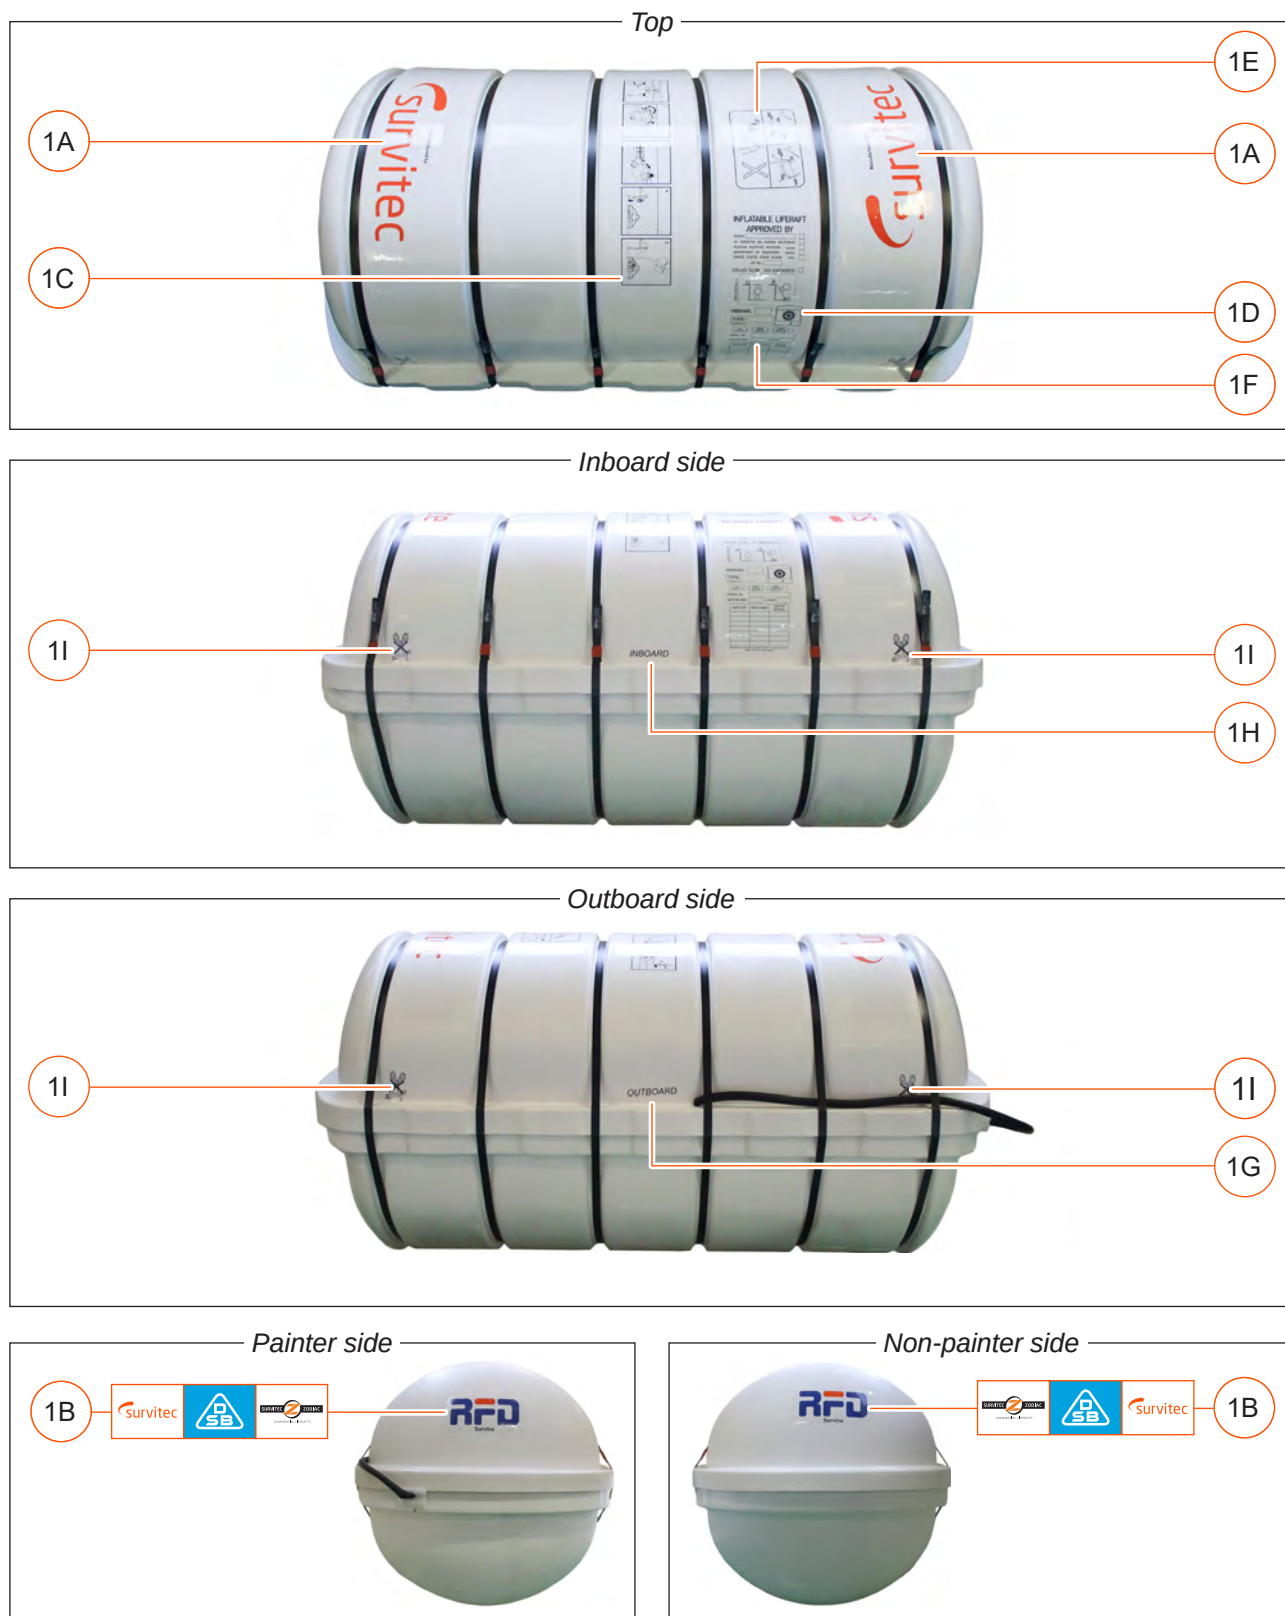

Figure 10
- Mk 14 size 14. Refer to **Figure 10** for label positions.